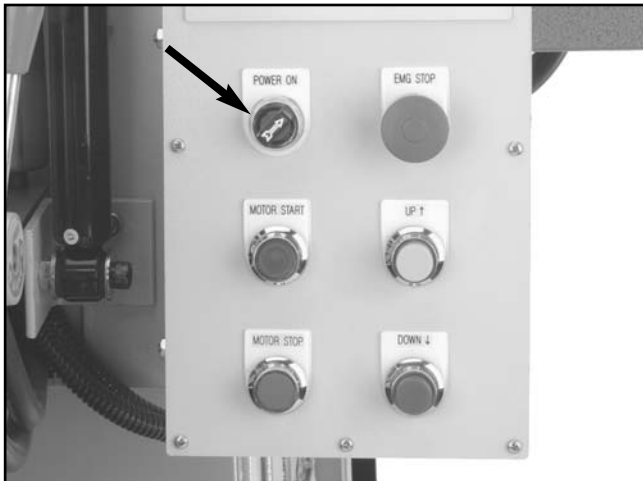

Figure 23. *POWER ON* switch.
4. Turn the *POWER ON* switch (shown in **Figure 23**) clockwise.